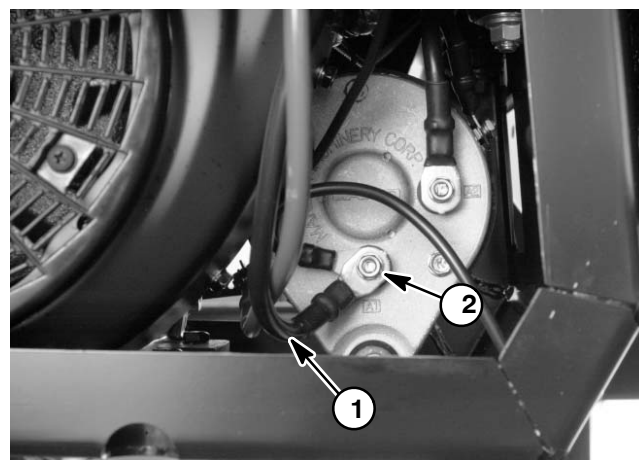

Figure 22
A. Disconnect ground cable to engine at starter/generator terminal A1 (Fig. 22).
A. Connect ground cable from the engine at starter/generator terminal A1 (Fig. 22).